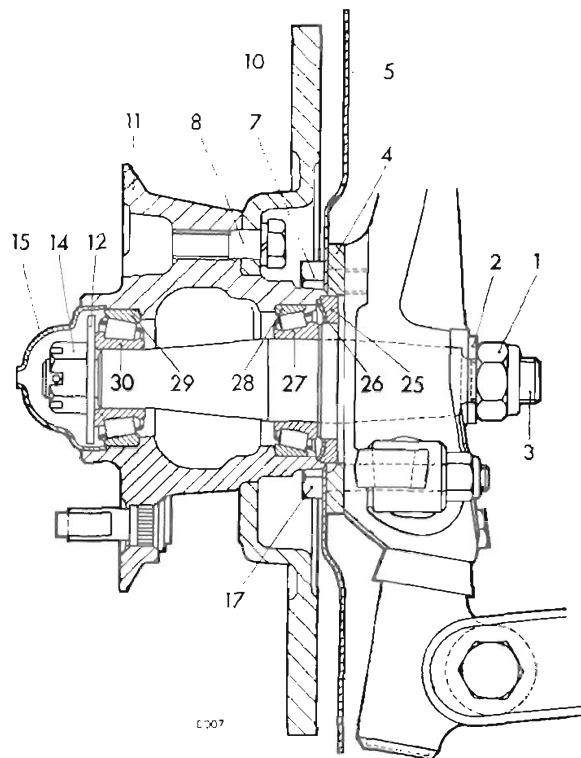

Fig. 10. Section through hub
**Disc and Hub Removal (Figs. 10 and 12)**
1. Remove caliper assembly (19).
2. Remove the grease retaining cap (15) from the hub by screwing through it a No. 10 U.N.F. setscrew (supplied in tool kit).
3. Remove the split pin, slotted nut (14) and plain washer (12) from the stub axle (3).
4. Withdraw the hub (11) complete with the outer race (30) and the outer part of the inner race (28).
5. Detach the brake disc (10) from the hub (11) and degrease the hub components.